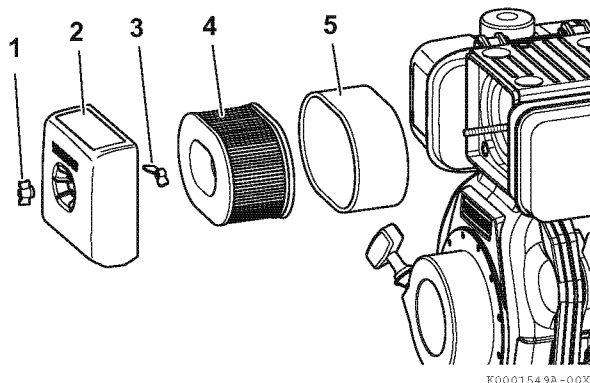

Figure 7
1. Remove the wing nut (1, **Figure 7**).
2. Remove the air cleaner cover (2, **Figure 7**).
3. Remove the wing nut (3, **Figure 7**).
4. Remove the air cleaner element (4, **Figure 7**) and outer foam element (5, **Figure 7**).
7. Clean the inside of the air cleaner cover (2, **Figure 7**).
8. Install the air cleaner element (4, **Figure 7**) into the air cleaner case. And check accurately that the air filter cartridge is properly fitted and aligned with its own seat of the air filter box.
9. Install the wing nut (3, **Figure 7**) and hand tighten. Overtightening the wing nut will damage the air cleaner assembly.
10. Slide the outer foam element (5, **Figure 7**) over the air cleaner element (4, **Figure 7**).
11. Install the air cleaner cover (2, **Figure 7**).
12. Install the wing nut (1, **Figure 7**) and hand tighten. Overtightening the wing nut will damage the air cleaner assembly.